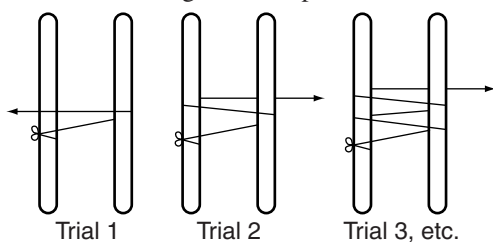
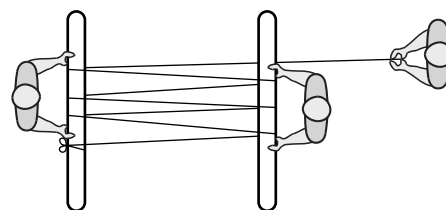

Figure 1
Figure 2
5. Wrap the rope around the middle of the other broom handle (see Figure 1) and give the free end to the rope puller. The rope puller should stand behind, and slightly to the side of one of the holders, so that the rope will be pulled perpendicular to the length of the broom handles. The free end of the rope should go under the arms of the broom-handle holder so that the rope is pulled parallel to the ground as well. See Figure 2.
7. Repeat steps 5 and 6 several times. For each new trial wrap the rope around the broom handles a different number of times (see Figure 1). How much more difficult is it for the holders with each new trial? How much easier is it for the puller? What is the mechanical advantage of the puller as a new loop is added to the pulley system? How close are the broom handle holders drawn together compared to the amount of rope pulled by the rope puller during each new trial?